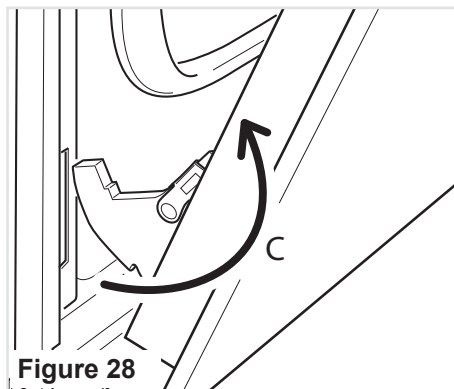

Figure 28
- Withdraw the hinge hooks from their location following arrow "C" (fig. 28).